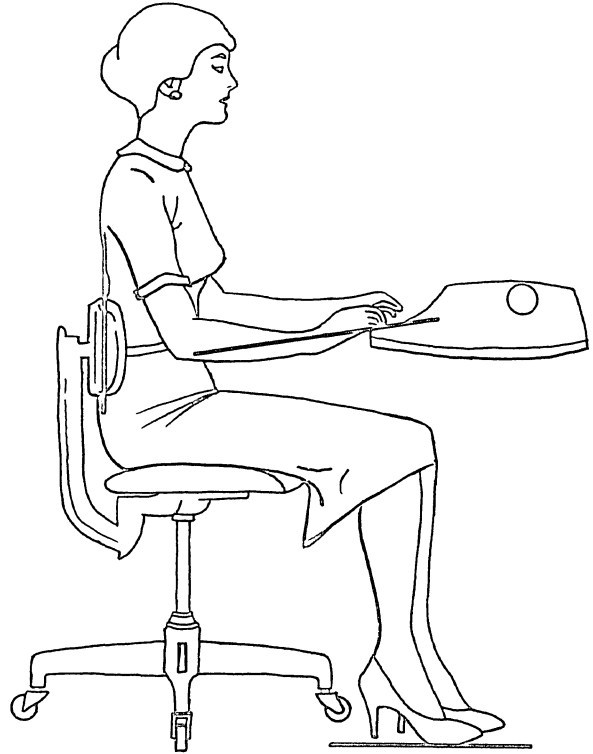

Figure 23. Correct Posture when Typing
1. Upper arms sloped slightly forward (Figure 23).